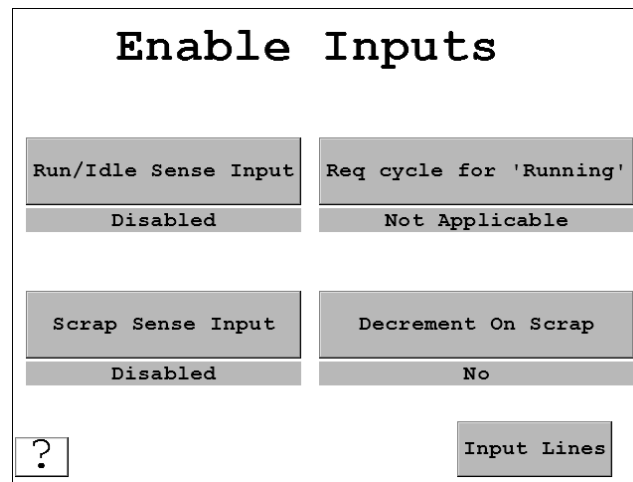

Figure 3-10. Enable Inputs Screen
3. On the Input Lines menu, press *Enable Inputs*. The Enable Inputs screen appears (Figure 3-10).
1. On the Input Lines menu, press *Enable Inputs*. The Enable Inputs screen displays (Figure 3-10, page 49).